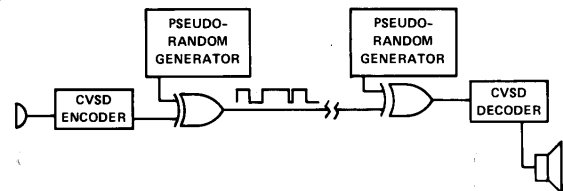
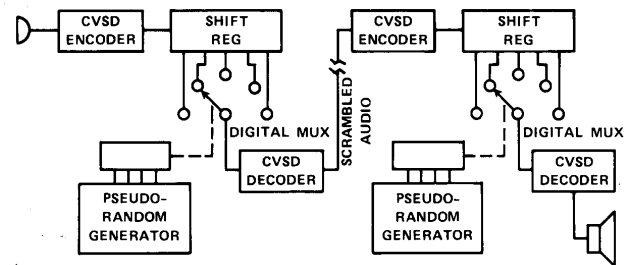

FIGURE 4A. DIGITAL TRANSMISSION ENCRYPTION
FIGURE 4B. VOICE TRANSMISSION SCRAMBLING
- 2) **Secure Communications:** Digital data can be quite securely encrypted using fairly simple standard hardware (Figure 4A). Scrambled speech for audio channels may also be accomplished by encoding into a shift register, then selecting different segments of the shifted data in pseudo-random fashion and decoding it (Figure 4B).